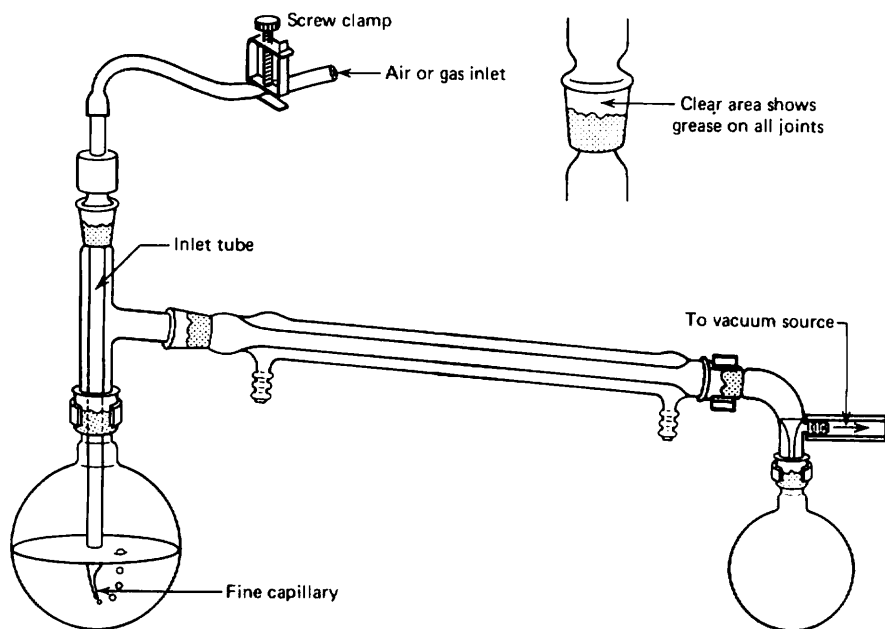

Fig. 98 A vacuum distillation setup.
2. Another liquid boiling 25°C higher than the first liquid. They must dissolve in each other. This is like the **simple distillation** with the changes shown (Fig. 98).
2. The thermometer can be replaced by a **gas inlet tube**. It has a long, fine capillary at one end (Fig. 98). This is to help stop the *extremely bad bumping* that goes along with vacuum distillations. The fine stream of bubbles through the liquid produces the same results as a boiling stone. Boiling stones are useless, since all the adsorbed air is whisked away by the vacuum and the nucleating cavities plug up with liquid. The fine capillary does not let in a lot of air, so we are doing a vacuum distillation anyway. Would you be happier if I called it a **reduced-pressure** distillation? An inert gas (nitrogen?) may be let in if the compounds decompose in air.